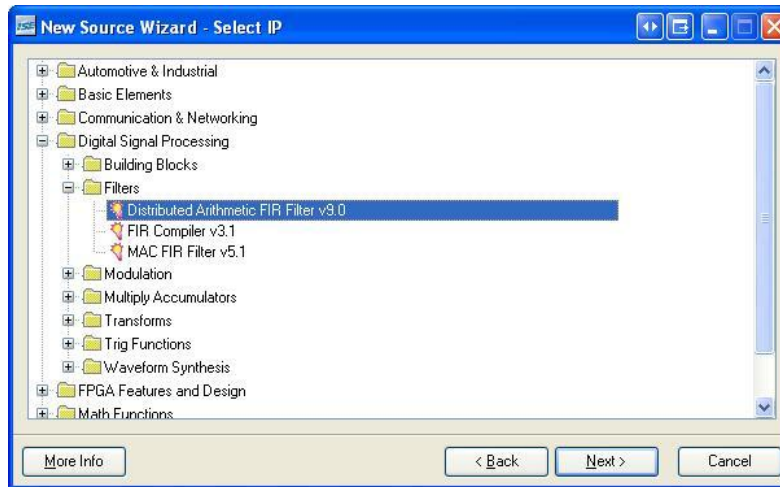

Figure 22: Select IP
- Expand the **Digital Signal Processing** category. Expand the **Filters** subcategory and locate **Distributed Arithmetic FIR Filter v9.0**. Your new Source Wizard – Select IP should look similar to Figure 22 below. Click the **Next** button.